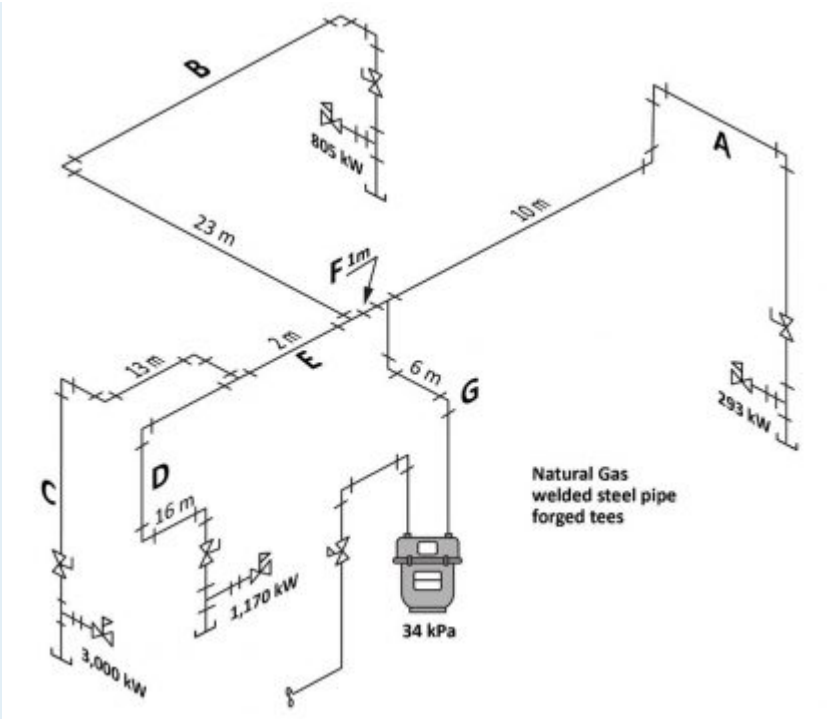

Figure 3
2. Size the drawing in Figure 3 and show all calculations.
- Figure 3 by Camosun College is licensed under a CC BY 4.0 licence.